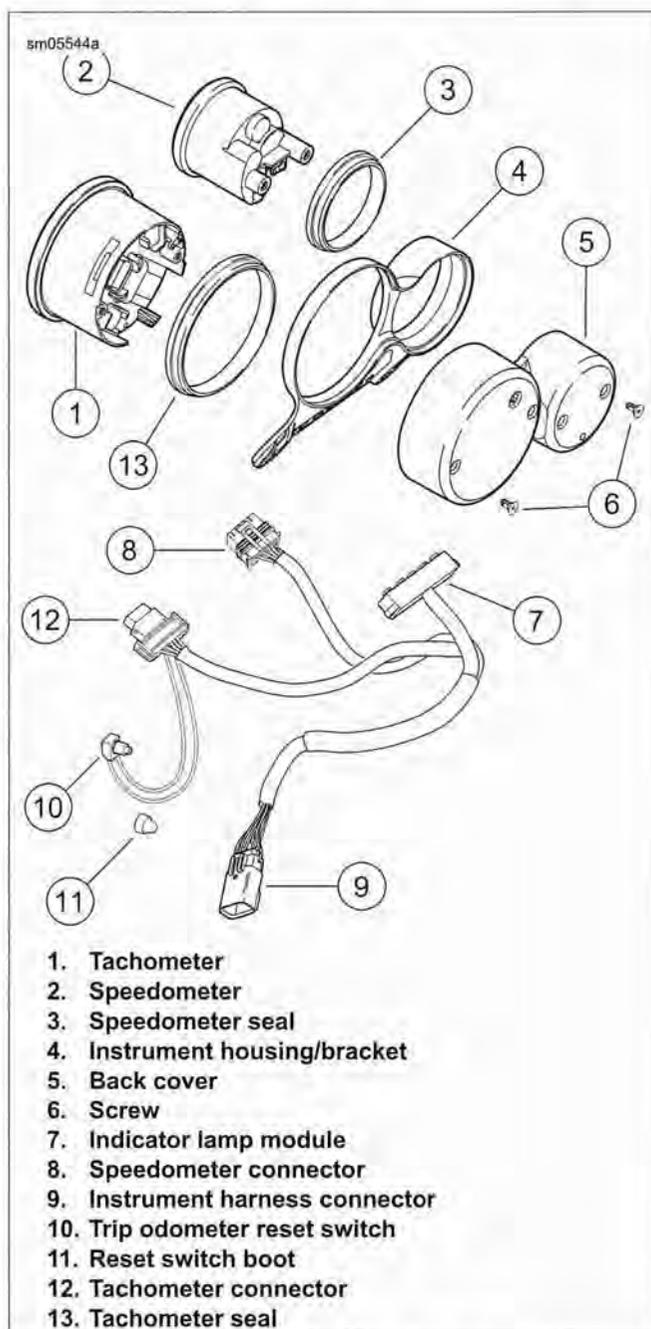

Figure 6-16. Instruments: XR 1200X
2. See Figure 6-16. Remove reset switch boot (11).
3. Remove screws (6) and back cover (5).
4. Disconnect speedometer connector (8).
5. Push out the speedometer (2) with seal (3).
6. Inspect seal (3), speedometer connector (8), and wiring. Repair or replace as required.
1. See Figure 6-16. Install seal (3) on speedometer (2).
2. Orient face upright and press speedometer (2) into instrument housing/bracket (4).
3. Install speedometer connector (8).
4. Attach trip odometer reset switch (10) into squared boss on back cover (5) and secure with reset switch boot (11).
5. Place back cover over speedometer and tachometer while positioning harness to avoid damage. Rotate speedometer and tachometer as needed to align mounting holes and install screws (6). Tighten screws to 12-18 in-lbs (1.4-2.0 Nm).
2. See Figure 6-16. Remove reset switch boot (11) from back cover (5).
4. Remove tachometer connector (12).
9. Install tachometer connector (12).
10. Position reset switch in squared boss on back cover (5) and secure with **new** reset switch boot (11).
11. Place back cover over speedometer and tachometer while positioning harness to avoid damage. Rotate speedometer and tachometer as needed to align mounting holes and install screws (6). Tighten screws to 12-18 **in-lbs** (1.4-2.0 Nm).
4. Open latches on each side of tachometer connector (12) and separate connector halves.
5. Push out the tachometer with seal (13).
2. See Figure 6-16. Install seal (13) on tachometer (1).
3. Orient face upright and press tachometer (1) into instrument housing/bracket (4).
4. Attach tachometer connector (12) to tachometer.
5. Attach trip odometer reset switch (10) into squared boss on back cover (5) and secure with reset switch boot (11).
6. Place back cover over speedometer and tachometer while positioning harness to avoid damage. Rotate speedometer and tachometer as needed to align mounting holes and install screws (6). Tighten screws to 12-18 **in-lbs** (1.4-2.0 Nm).